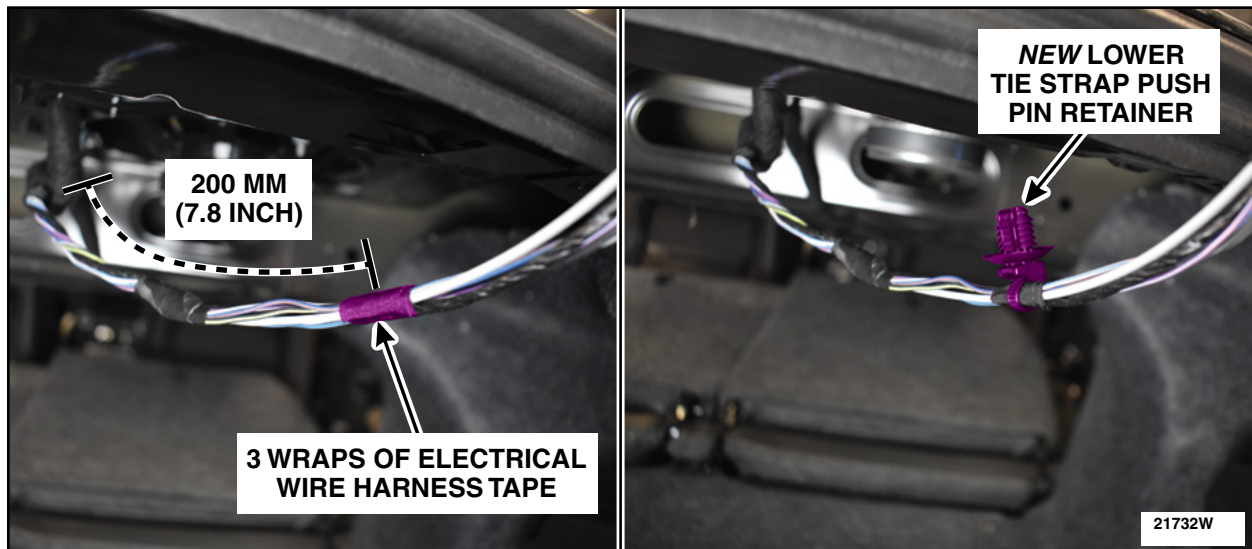

FIGURE 22
31. Measure 200 mm (7.8 in) from the wire harness take out. Apply 3 wraps of Coroplast® 837 or equivalent electrical wire harness tape over the harness and support stick. Install a new lower tie strap push pin retainer mid way onto the electrical wire harness tape. Trim any excess from the tie strap. See Figure 22.